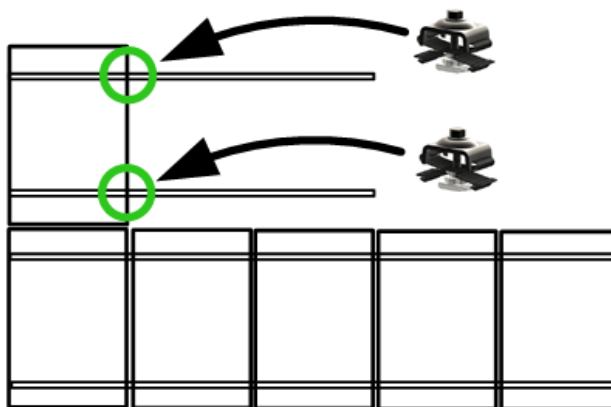

Fig. B3
- If the target module will be out of the array for an extended period, carefully attach two mid clamps to the now-exposed edge of the adjacent module (Fig. B1, Fig. B2, and Fig. B3) according to Section 1.9.3 of this guide (note that two of the teeth on these mid clamps will instead directly engage the top of the rail—this is acceptable). The mid clamps will keep the modules bonded to the rail, which is bonded to the equipment grounding conductor (EGC) and in turn the grounding electrode conductor (GEC). **Connect an appropriate extension cable between the modules on each "side" of the "hole" in the circuit left by the removed target module.**